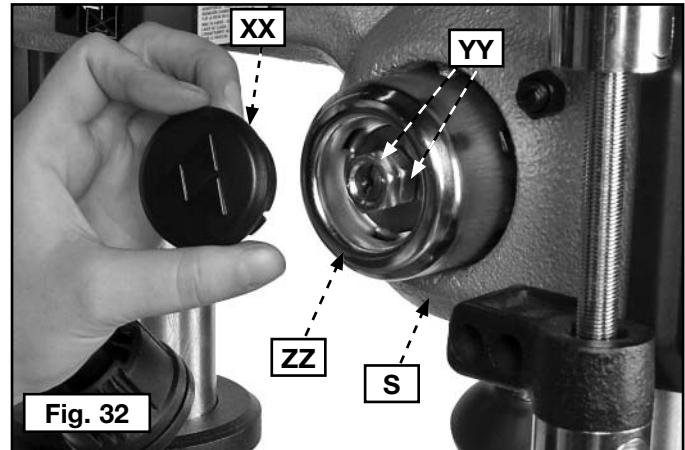
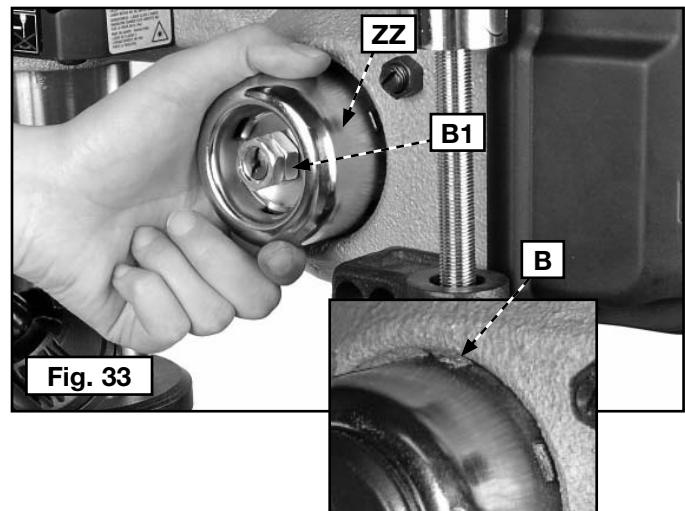

Fig. 32
Fig. 33
1. Remove plastic cap (XX) Fig. 32.
2. Loosen nuts (YY) but do not remove. Make sure that the spring housing (ZZ) remains engaged with head casting (S).
3. While firmly holding the spring housing (Fig. 33), pull out the housing and rotate it (counter-clockwise to increase or clockwise to decrease) until you feel the boss (B) engaged with the next notch on the housing. Tighten the two nuts (YY) Fig. 32 to hold the housing in place.
**IMPORTANT:** The inside nut (B1) Fig. 33 should not contact the spring housing (ZZ) Fig. 33.